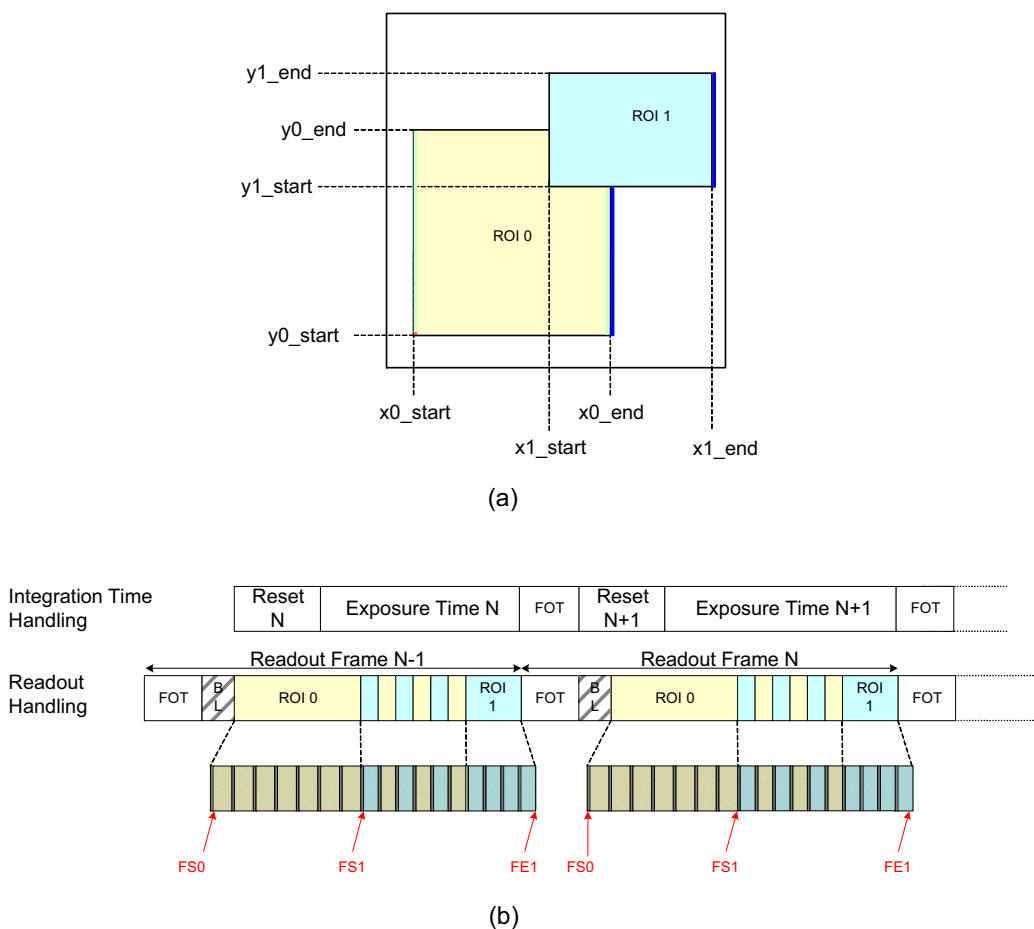

Figure 30. Frame Sync Codes
The frame format is explained by example of the readout of two (overlapping) windows, as shown in Figure 30 (a).
Figure 30 indicates that, after the FOT is complete, a number of lines which only include information of 'ROI 0' are sent out, starting at position y0\_start. When the line at position y1\_start is reached, a number of lines containing data of 'ROI 0' and 'ROI 1' are sent out, until the line position of y0\_end is reached. From there on, only data of 'ROI 1' appears on the data output channels until line position y1\_end is reached.
**NOTE:** Only frame start and frame end sync words are indicated in (b). CRC codes are also omitted from Figure 30.